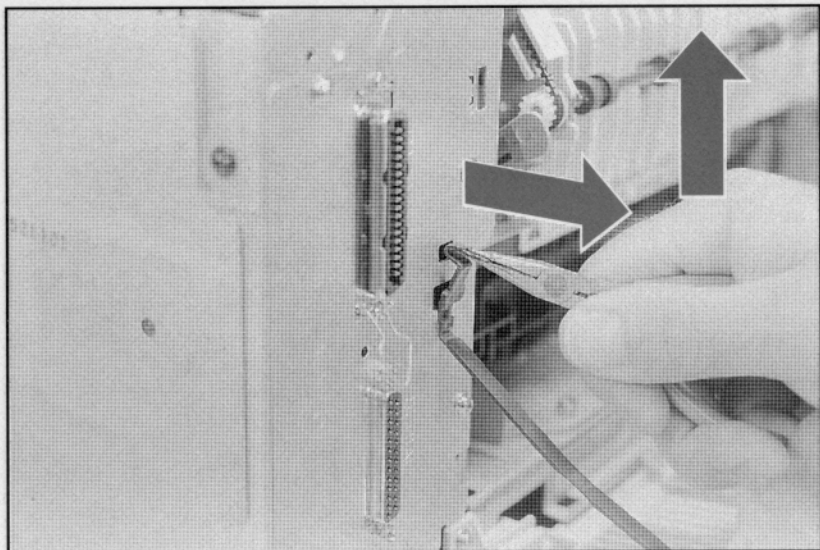

Figure 6-6 Releasing the Door Support
- 3** Release the door support from the rear of the printer frame as follows: (see Figure 6-6)